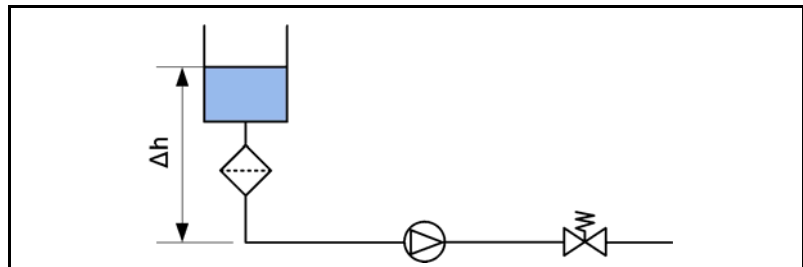

Fig. 55: Pressure test setup
1. Set up the system as shown in Fig. 55.